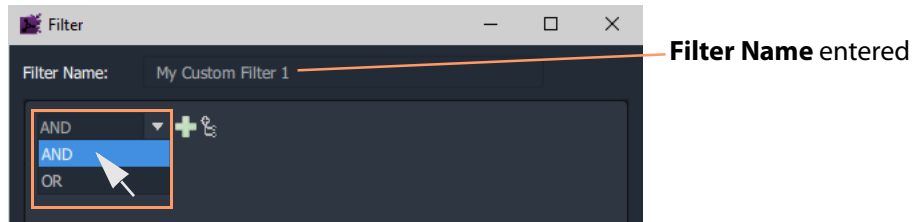

Fig. 5-57: Select AND
- 3 Select AND as the first (top-level) logical combination item with the drop-down menu button. See Figure 5-57.